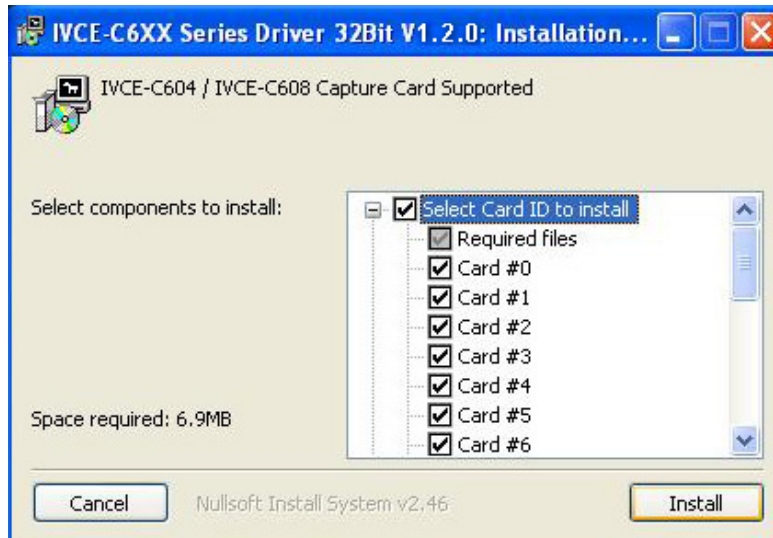

Figure 6-3: Driver Installation - Select Card ID
Step 6: The screen in **Figure 6-3** appears. Select components to install. Click the + button to expand the card ID option list. Select the video capture card ID to install the driver. Click the **INSTALL** button in **Figure 6-3** to continue the installation process.